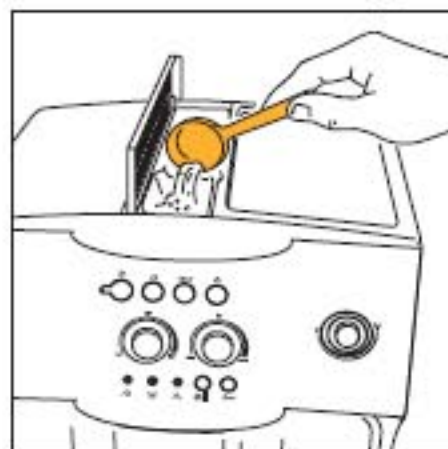

Fig. 19
2. Lift the lid in the centre, insert the pre-ground coffee measure in the funnel (see fig. 19) and proceed as described in paragraph 5. NB: You can make just one coffee at a time by pressing the ☞ button.